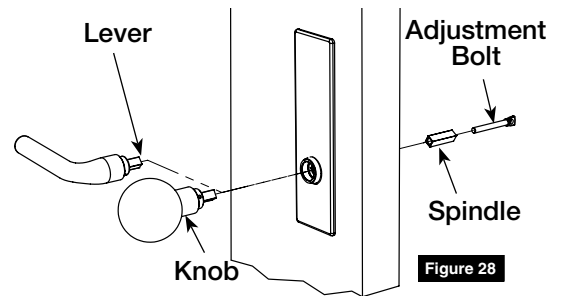

Figure 28
3. Install outside lever or knob by inserting adjustment bolt on opposite side of door. Tighten bolt finger-tight then loosen a few turns. (Figure 28)